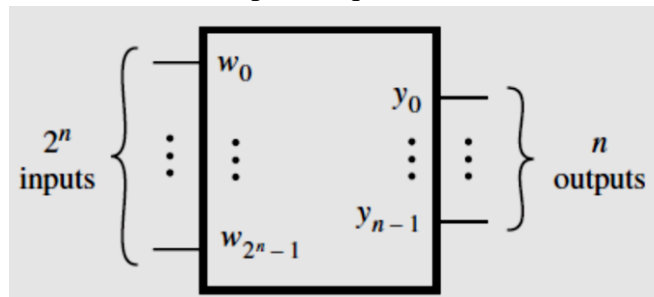

Figure 4.2 Encoder
- A binary encoder encodes information from 2^n inputs into an n -bit code, as indicated in Fig. 4.2.